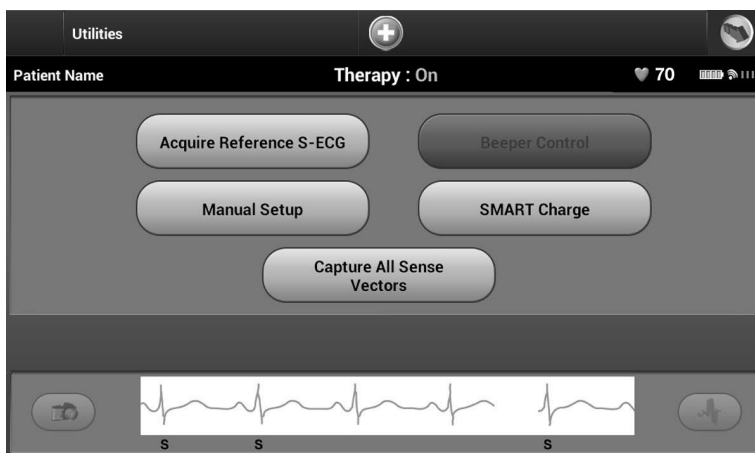

Figure 47: *Utilities screen*
It is also possible to capture S-ECGs corresponding to all three sense vectors (Primary, Secondary, and Alternate) by using the Capture All Sense Vectors button on the Utilities screen (Figure 47).
2. Select the Utilities button. The Utilities screen appears (Figure 47).